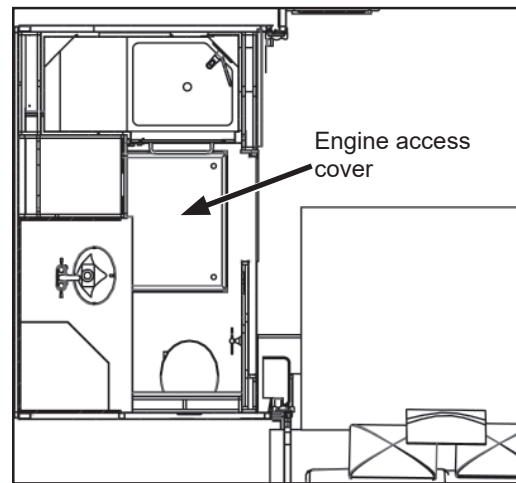

Figure 1
- To access the engine compartment, enter the coach and go to the rear bathroom. Locate the engine access cover (in front of the vanity). See Figure 1. Remove the bolt(s) attaching the cover. Set the cover and bolts aside until repairs have been completed.